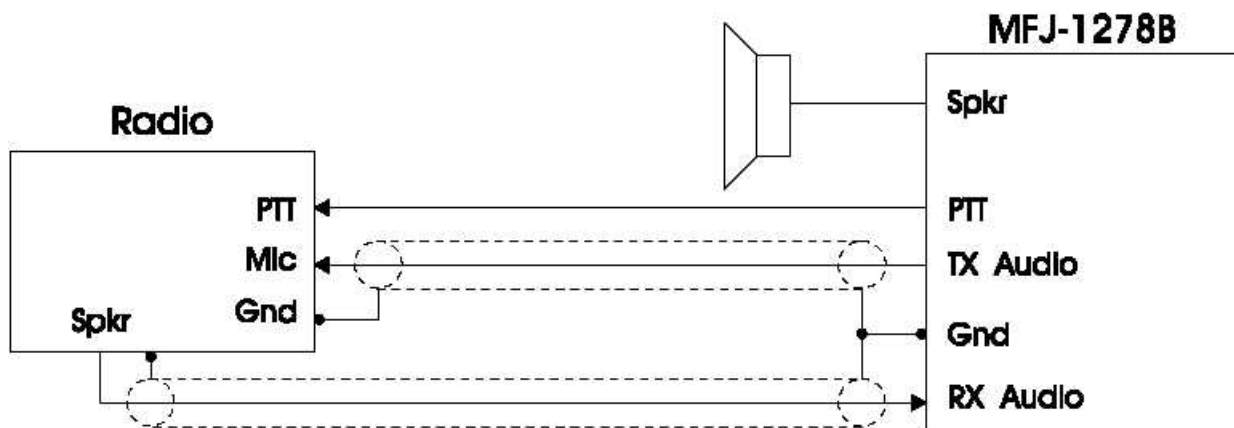

Fig. 3-5 Method One Interconnect
For Method 1, shown in Fig. 3-5, the MFJ-1278B's audio is fed directly into the microphone connector or similarly connected auxiliary jack. The output of the MFJ-1278B will be adjusted to give a proper modulation level. The receiver audio will be taken from an earphone plug or speaker jack and fed directly to the MFJ-1278B. The user can connect a monitor speaker to the SPEAKER jack of the MFJ-1278B. This allows you to monitor the transmit and receive audio on the channel.
1. Connect your MFJ-1278B and radio as shown in Fig. 3-5. Turn on the MFJ-1278B and computer and start your terminal program. Connect the radio to a dummy load and listen to the transmission with another nearby radio.